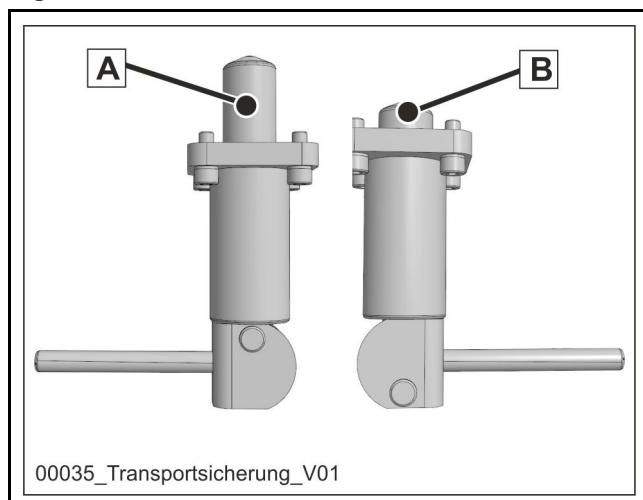

Fig. 500 "A" = secured / "B" = unlocked
- Loosen the transport safety devices on both spline ends, example (1) (**Fig. 499**), (**Fig. 500**).